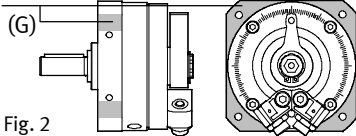

Fig. 2
1. Check whether it is necessary to drill additional holes in the fastening flange of the DSM. The grey areas (G) (Fig. 2) show where additional holes can be drilled on the DSM (e.g. to mount centring pins).